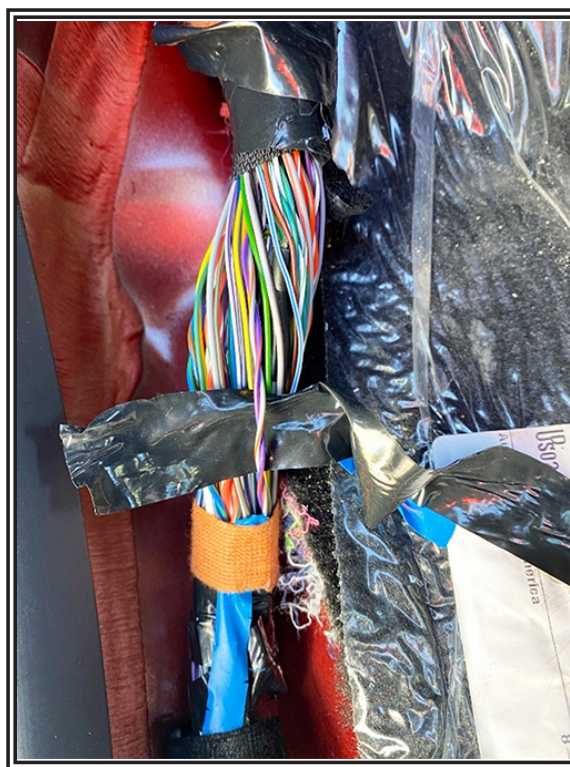

Figure 2
2. Find the purple/orange and grey/orange wires. See FIGURE 2.